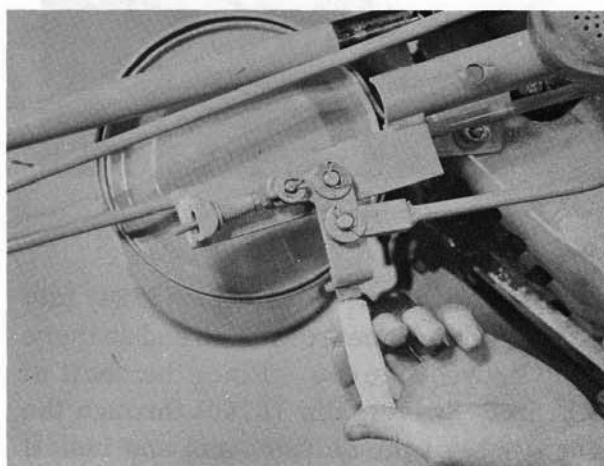

Figure 52
30. Fasten the Shifter Rod to the Shifter Lever with Clevis Pin (L-722) Clutch Spring Washers, and Cotter Pin (602) as shown in Figure 52.